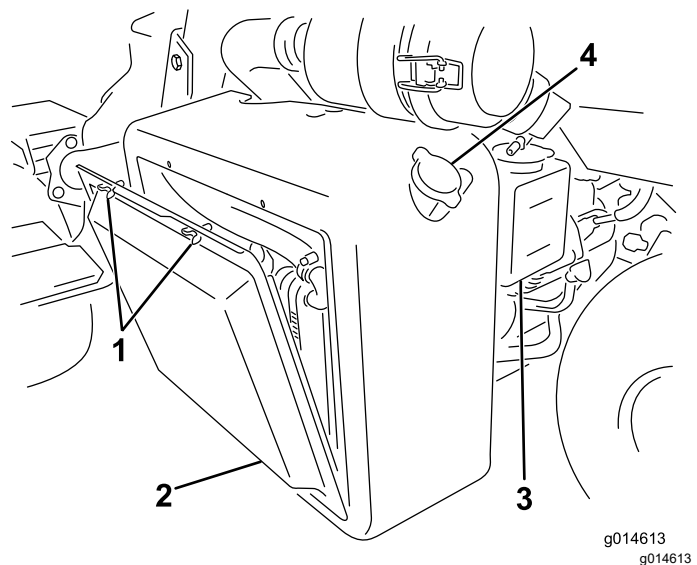
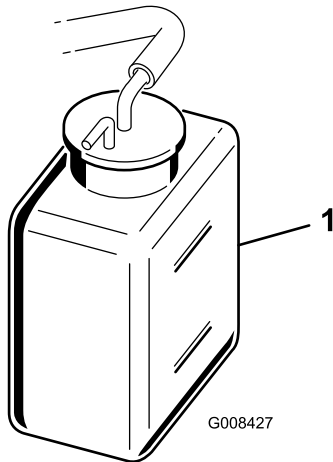

Figure 50
Figure 51
1. Remove the radiator screen (Figure 50).
2. Check the coolant level (Figure 50 and Figure 51).